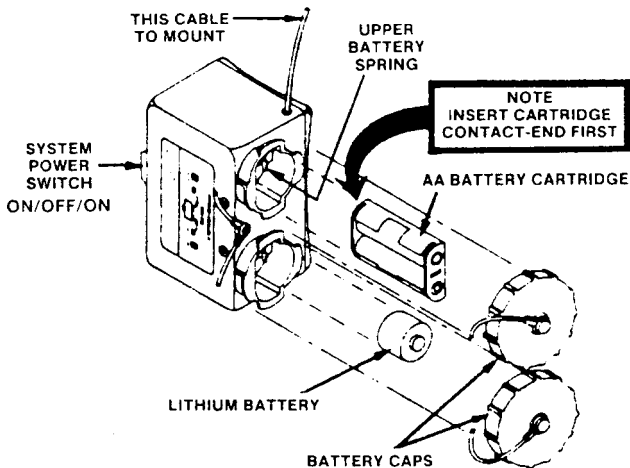

Figure 1-12. Power Pack.
l. Power Pack. Aviation Use. The power pack is used to power the GM-6(V)1 and GM-6(V)2 goggles. The power pack has two battery compartments. Each compartment will hold one lithium battery (BA-5567/U) or two AA batteries (BA-3058/U) placed in the AA battery cartridge (fig. 1-12).